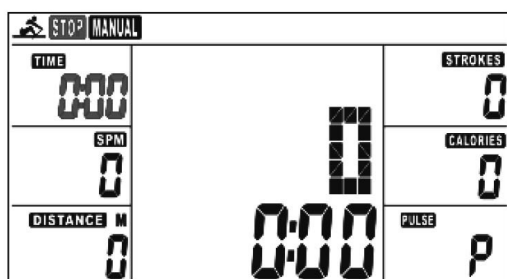

Fig. 6
1. Select MANUAL in the training mode (Fig. 6).